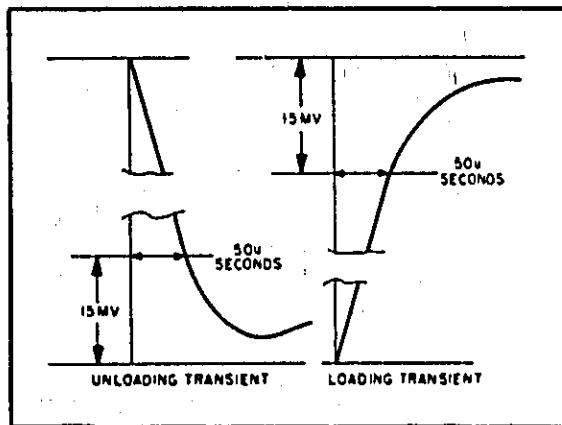

Figure 5-6. Transient Recovery Time, Waveforms.
- Starting from the major graticule division representative of time zero, count to the right 50 μ sec and vertically 15 mV. Recovery should be within these tolerances as illustrated in Figure 5-6.